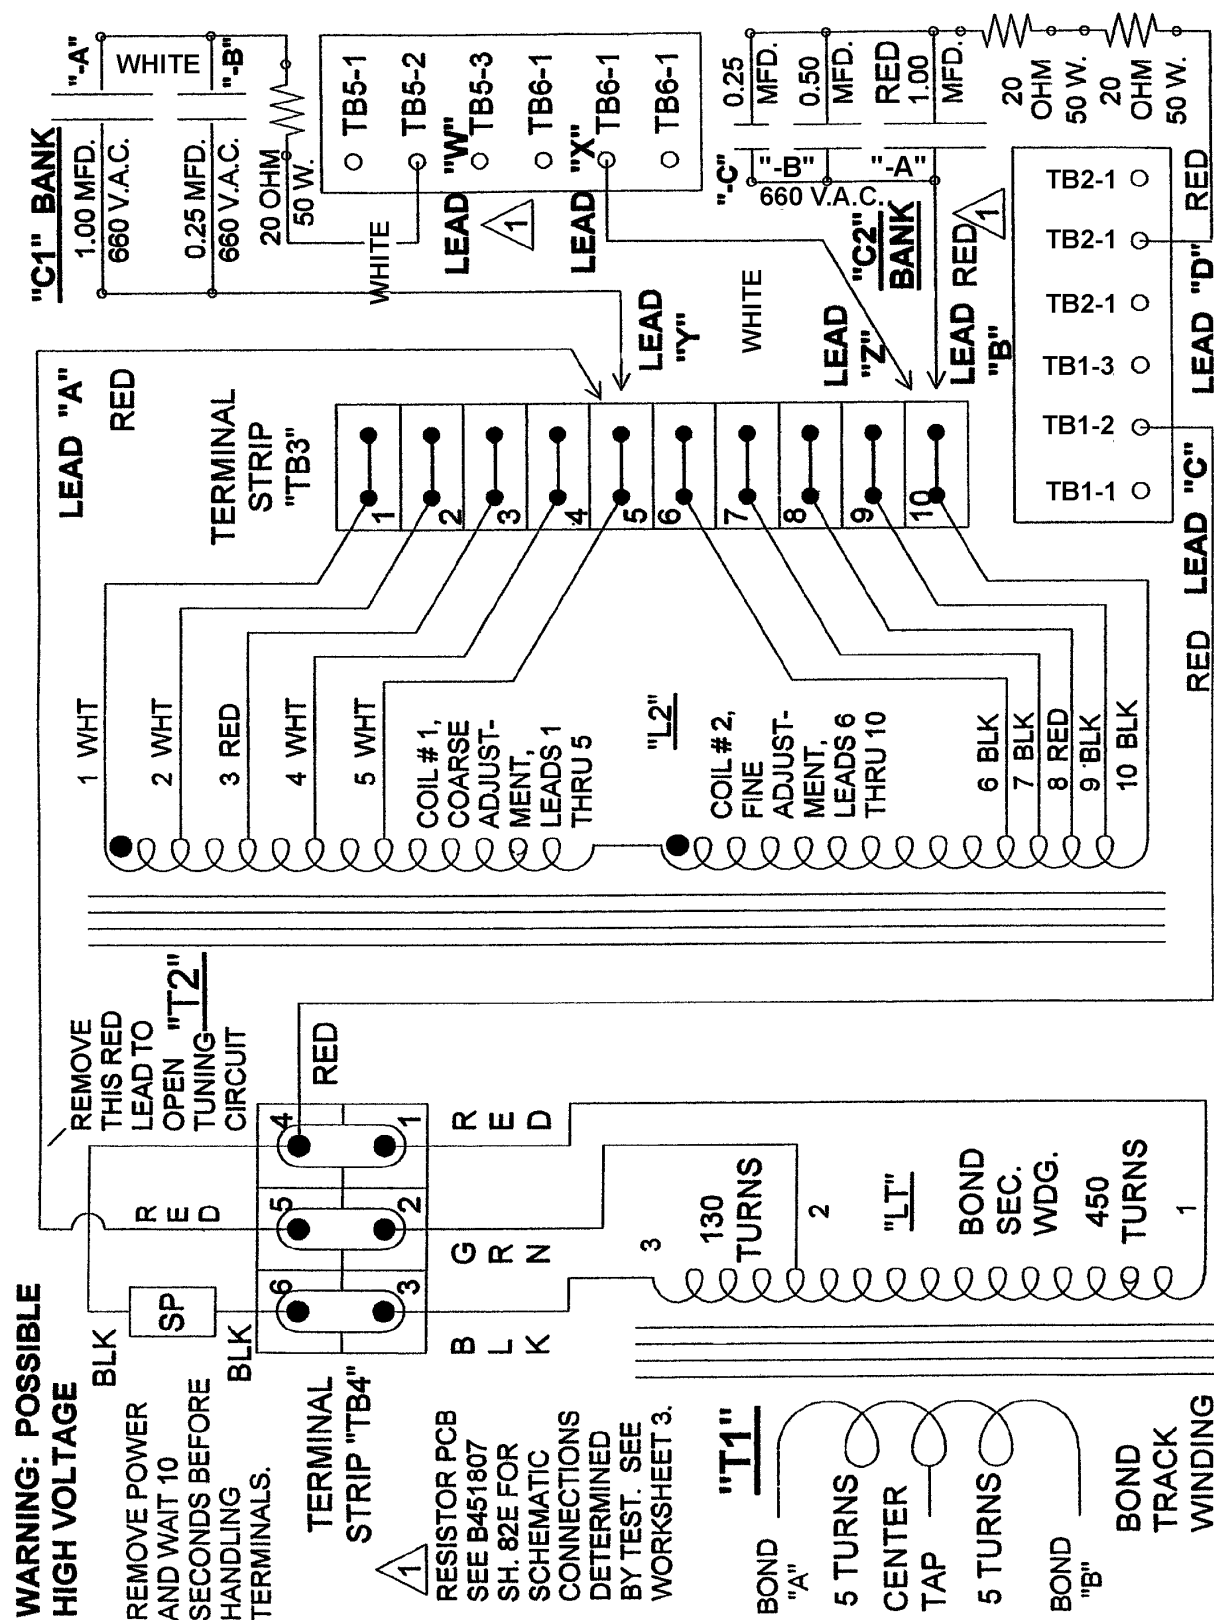

FIGURE 4-2 - TUNED BOND SCHEMATIC
- a. Connections to “TB3” for leads “A”, “B”, “Y”, and “Z” will be varied during the tuning procedure. Connections to “TB1”, “TB2”, “TB5”, and “TB6” for leads “C”, “D”, “W”, and “X” respectively, will be varied during the impedance adjustment procedure. The tuning unit’s initial lead connections to “TB1”, “TB2”, “TB3”, “TB5”, and “TB6” were chosen to ensure that the leads have sufficient length to reach all terminals. The initial wiring connections (per wiring diagram Figure 4-2) do not represent nominal values. “Initial wiring,” “nominal,” “minimum turns” and “maximum turns” connections are listed below.